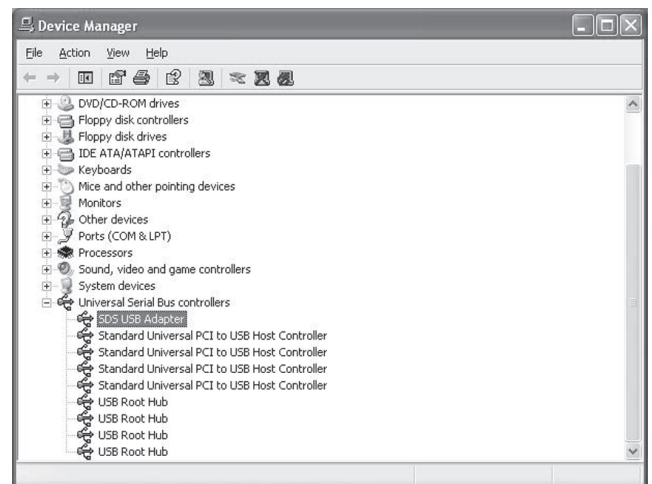

Fig.29
7. To make sure that the SDS USB Adapter driver is correctly installed, from the menu opened by right-clicking “My Computer”, select “Property” - “Hardware” - “Device Manager” to open the Device Manager window. (Fig.29)